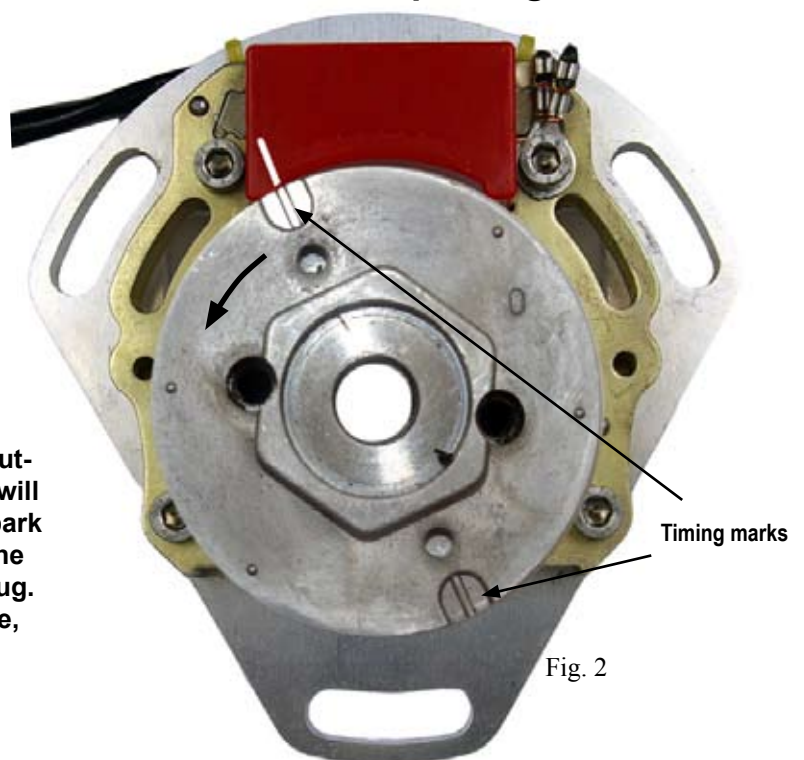

Fig. 2
- Step 5** See fig 2. with the piston set as in step 4, align the white marks on the rotor and stator, taking care not to rotate the crankshaft.